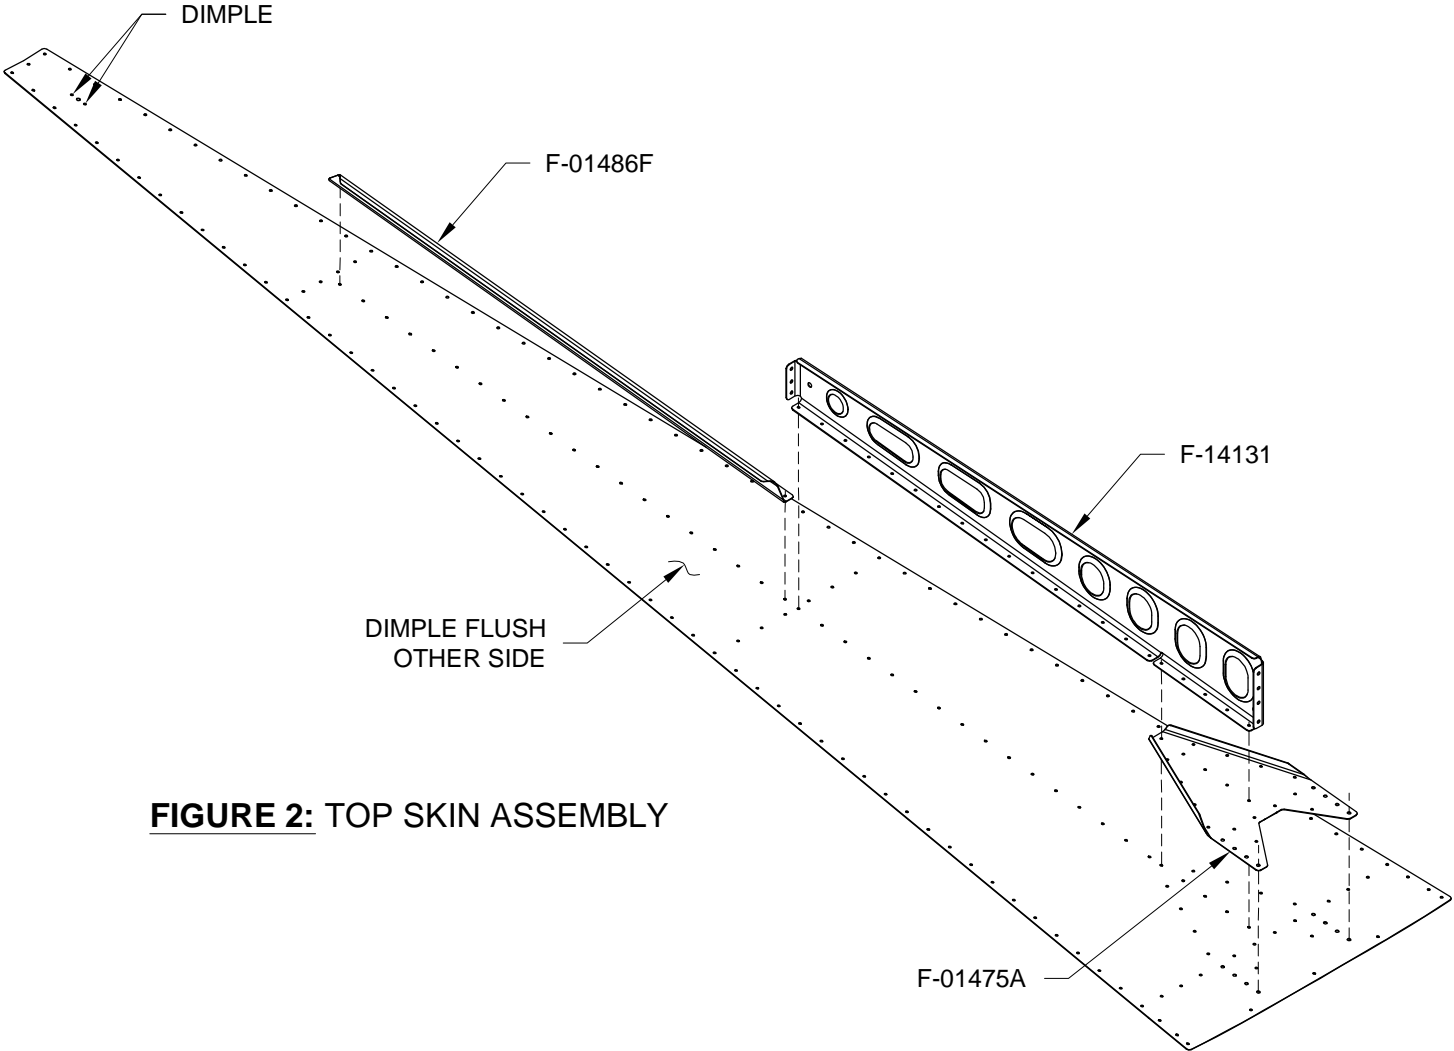

FIGURE 2: TOP SKIN ASSEMBLY
Step 3: Rivet the F-14131 Upper Aft Fuse Rib, F-01475A Skin Doubler and F-01486F J-Stiffener to the F-01475 Top Skin as shown in Figure 1 and Figure 2.